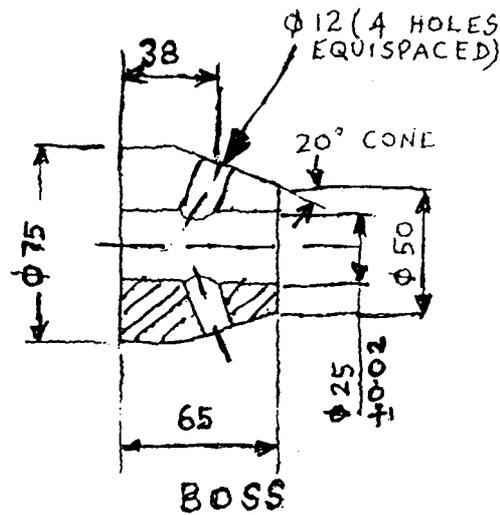

Fig. 2
- (b) Design and draw atleast 2 views of a jig for drilling 4 holes of size $\phi 12$ on the Boss shown in Fig. 2. Number the parts and prepare part list.